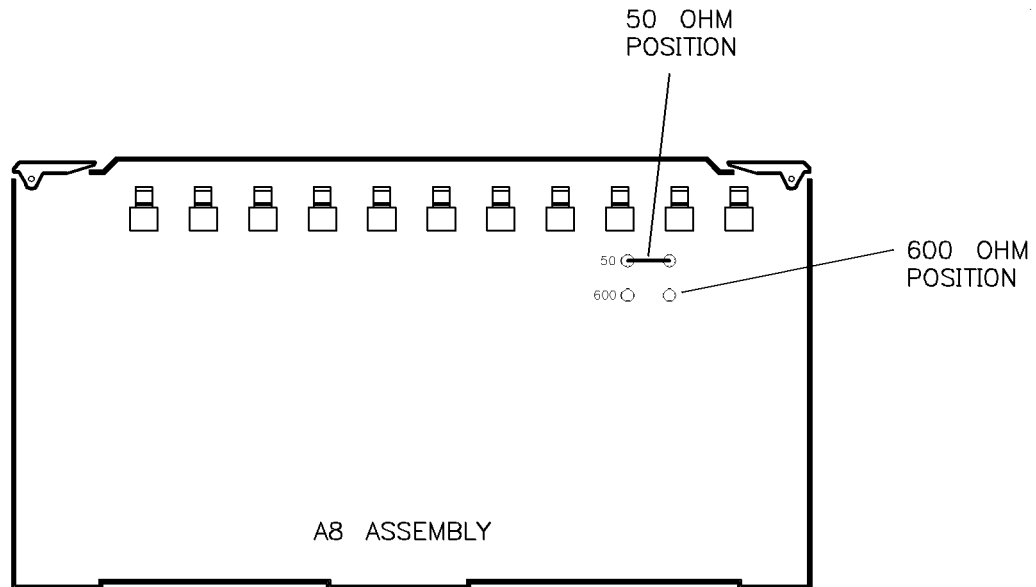

Figure 3-39. A8 Jumper Locations
2. Lift up the A8 modulation generator assembly far enough to access the jumper shown in Figure 3-39.